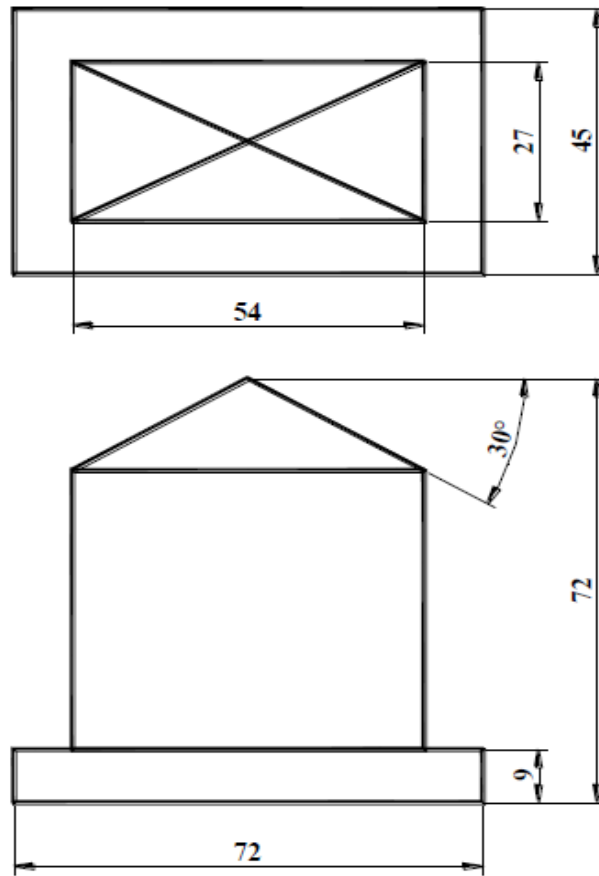

Figure 3
b) **Figure 3** shows two views of a mechanical block drawn in first angle orthographic projection. From the views, construct an Isometric view of the block. (10 marks)